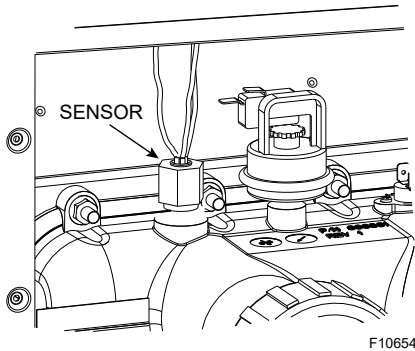

Figure 31. Digital Temperature Sensor Location
- Remove the thermostat temperature sensor by loosening the compression fitting nut. Re-route the sensor to left-side of the heater. See **Figure 31**.
- Remove (12) nuts holding the inlet/outlet and return headers to the tube sheets. Clean off tube sheet area where the gasket seats. Also clean off the header and the gasket. Apply a non-petroleum-based lubricant to the gasket such as Aqualube. Re-attach the headers to the opposite sides, making sure they are installed in an upright position. Do not over-tighten. Torque should not exceed 7 ft/lb. See **Figure 31**.